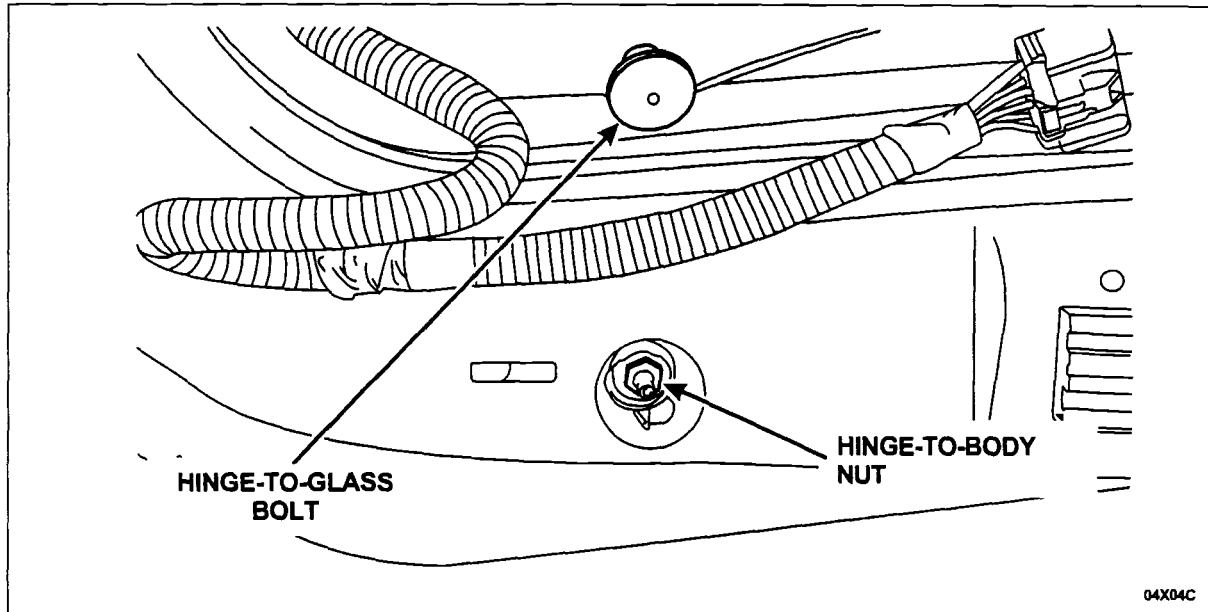

FIGURE 3
6. Using a magnetic socket or tool, remove one (1) liftgate glass hinge-to-body nut then the hinge-to-glass bolt and remove one (1) hinge from the vehicle. See Figure 3.